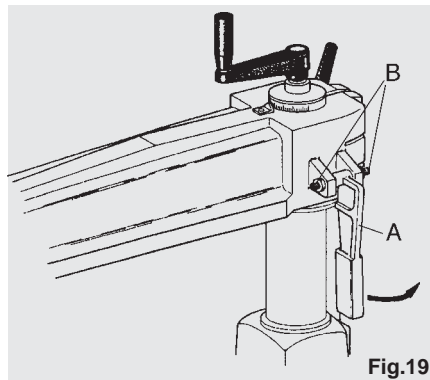

Fig.19
Take the lever (A) out of its envelope (fig.19) and insert it between the grub screws (B). Definitive tightening is to be postponed to the adjustment of the perpendicularity between the arm and the abutting straightedge.